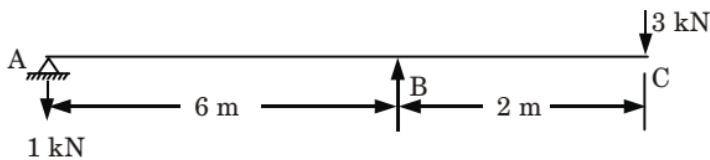

Fig. 7.
- b. Determine the vertical deflection at the free end and rotation at A in the overhanging beam shown in Fig. 7. Assume constant  $EI$ . Use Castigiano's method.